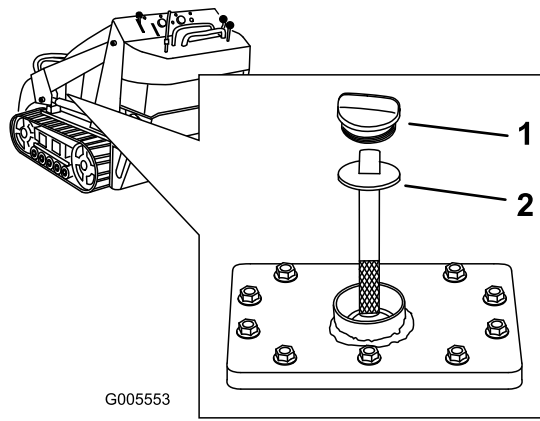

Figure 11
5. Clean the area around the filler neck of the hydraulic tank (Figure 11).
6. Remove the cap from the filler neck and check the fluid level on the dipstick (Figure 11).